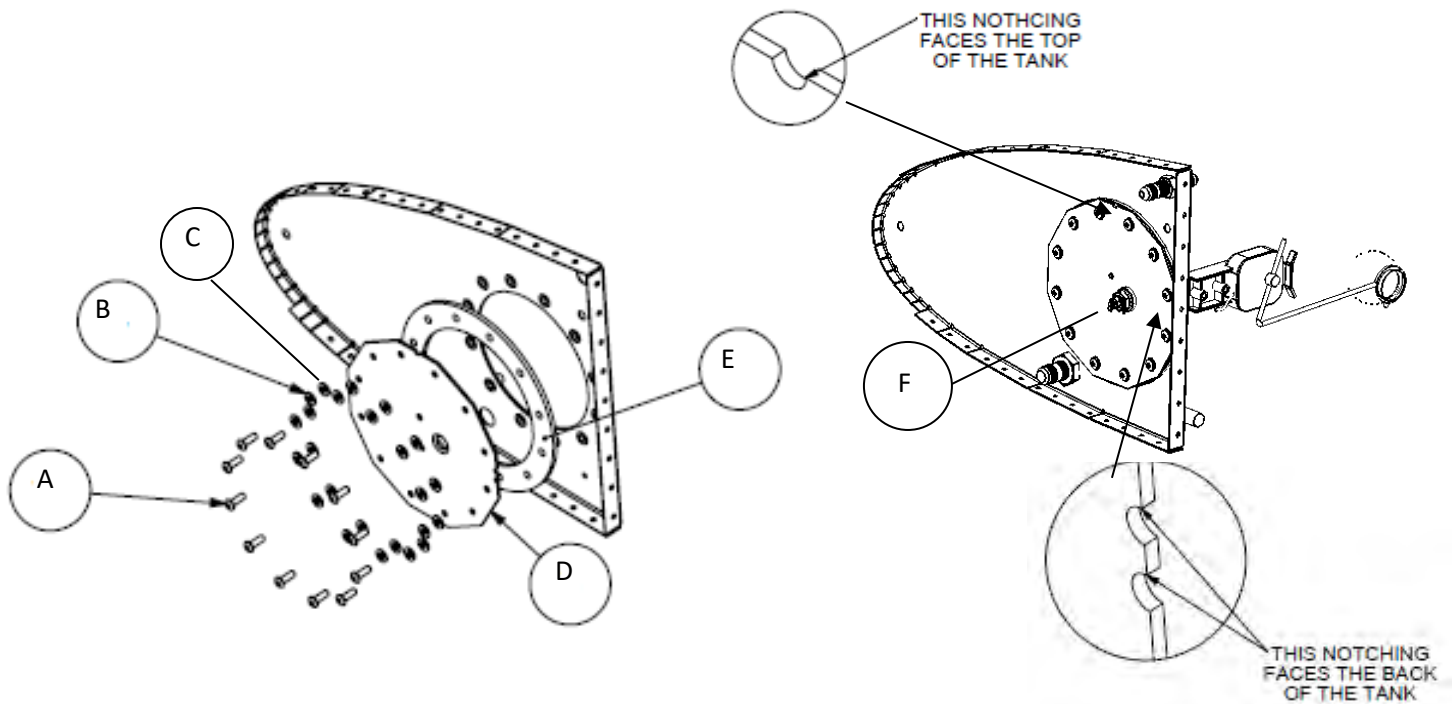

Figure 64: Fuel sender installation into fuel tank.
- Observe correct plate orientation and placement of washers (refer to Figure 64). The plate is fitted with the edge with the single notch facing the top of the wing and the edge with two notches facing the rear of the wing.